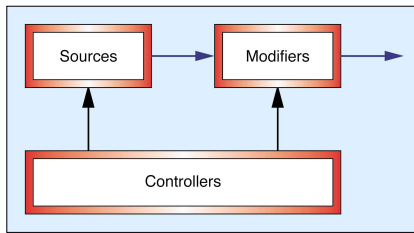

Figure 3: Thinking about the synthesizer in a different way.
- ▶ major classes that I call Sources, Modifiers, and Controllers (see Figure 3, above).